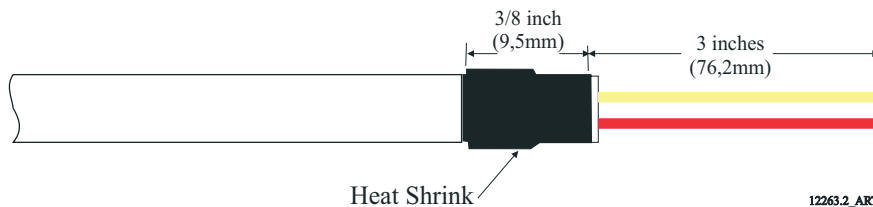

Figure 4-10: Two-Conductor Start Interlock Cable
- C Strip back 2 inches (50,8mm) of the PVC jacketing. Refer to Figure 4-10: Two-Conductor Start Interlock Cable